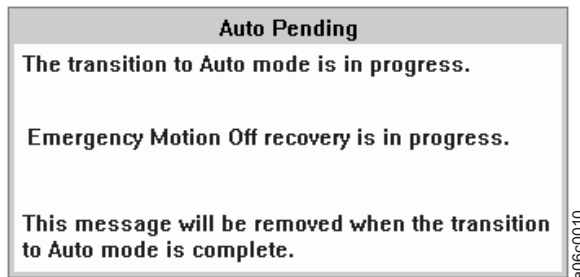

Figure 44. Auto Pending Window
6. The Auto LED on the operator panel flashes until the transition is complete, then stays lit. The Auto Pending window (Figure 44) indicates that the 3494 is changing from Pause mode to Auto mode. **Emergency Motion Off recovery is in progress** will appear in the window for a short time during this transition. When Emergency Motion Off Recovery is complete, the window closes.